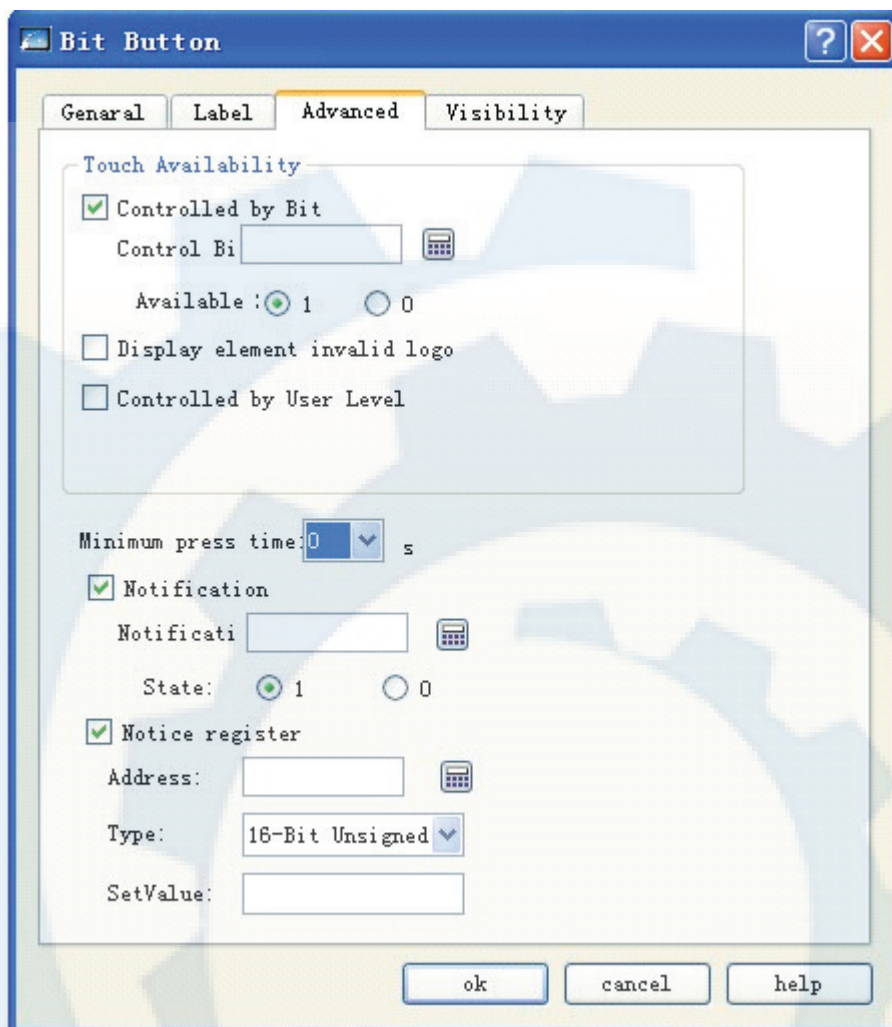

Figure 4-78: Advanced tab of bit button
- Advanced page will be displayed after you click this tab. See Figure 4-78.